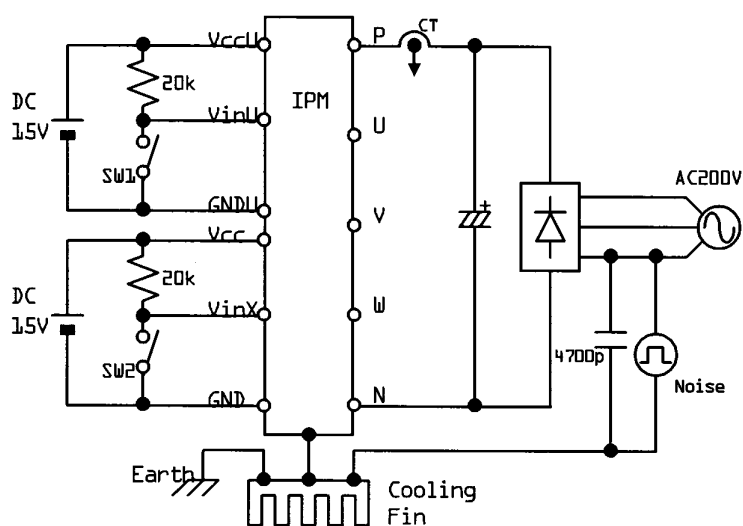

Figure 5. Noise Test Circuit
7. Noise Immunity (V_{dc}=300V, V_{cc}=15V, Test Circuit Fig 5.)